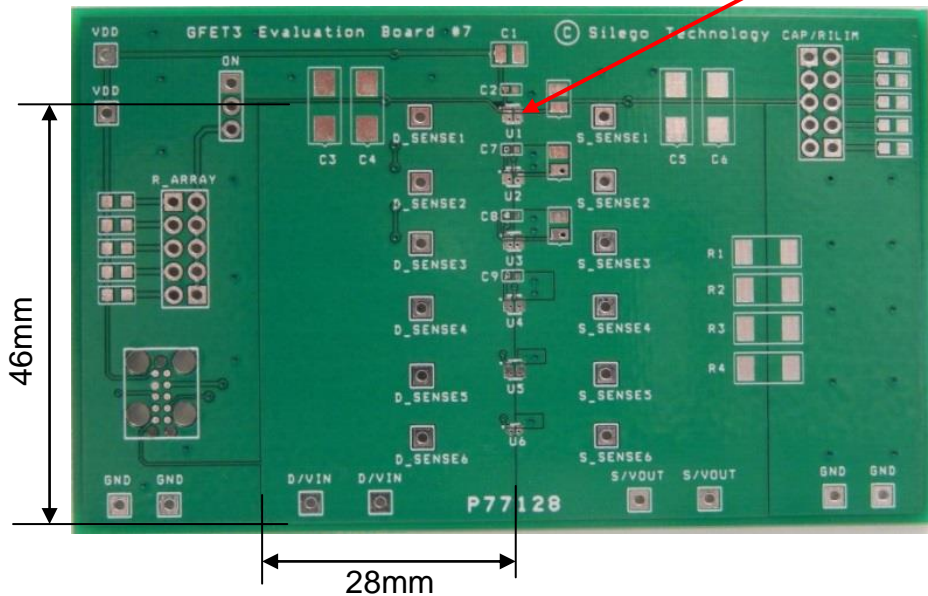

Figure 3. SLG59M1515V Evaluation Test Board
2.3. The D/VIN and S/VOUT pins carry significant current. Please note how the D/VIN and S/VOUT pads are placed directly on the power planes in Figure 3, which minimizes the $R_{ds(ON)}$ associated with long, narrow traces. The D/VIN, S/VOUT and GND pins dissipate most of the heat generated during high-load current condition. The layout shown in Figure 3 is illustrating a proper solution for heat to transfer as efficiently as possible out of the device.